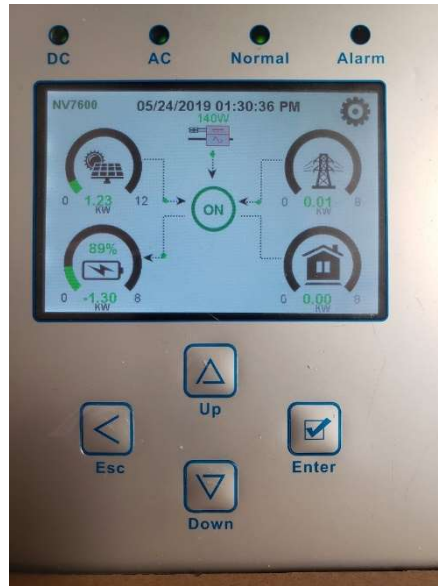

Figure 7
The Operation and Display Panel consists of four (4) indicators across the top, four (4) function keys at the bottom, and an LCD display that indicates the operating status and the input/output power information (Figure 7).